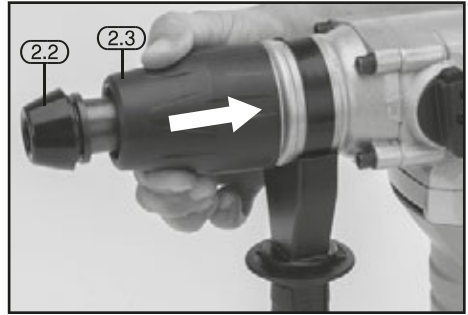

FIG.10
9.6 SDS MAX SYSTEM – FIGS. 10 – 11